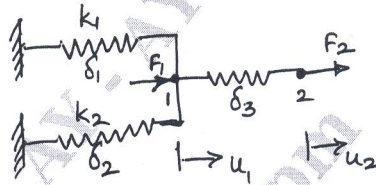

Fig Q2(a)
- 2 a. State the principle of minimum potential energy. Determine the displacements at nodes for the spring system shown in Fig Q2(a), Take : $K_1 = 50\text{N/mm}$; $K_2 = 60\text{N/mm}$; $K_3 = 70\text{N/mm}$ $F_1 = 75\text{N}$; $F_2 = 100\text{N}$.